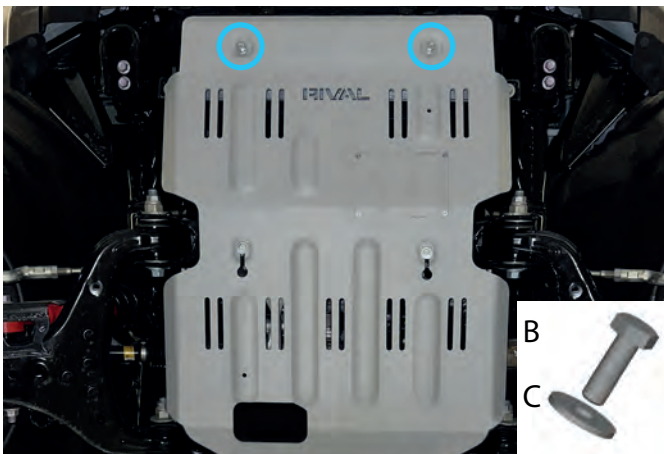

Fig. 9
9. Fix front part of engine skid plate using bolts M8x25 (item B) and washers M8 (item C) as shown in fig.9.